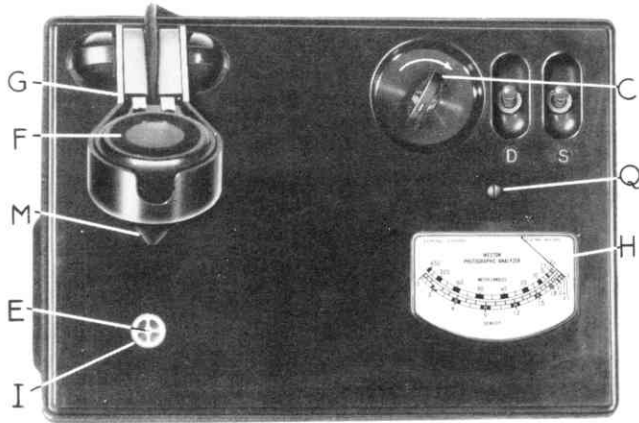

Fig. 1
How it Operates—The positions of the various external features are shown in Figure 1. The optical system inside of the Analyzer is shown in Figure 2. Light from the lamp "D" passes upward through the heat-absorbing glass "K", the double condensers "L", diffusing glass "O", and emerges as a cone-shaped beam from aperture "E" in the viewing plate "I". When the outside
arm "G" (Figure 1) is lowered to take a density reading, the diffusing glass "O" automatically slides out of place, and the light beam from aperture "E" passes through a corresponding aperture on cone "M" and impinges on the photo-electric cell "F". Obviously, this path of light must be kept in perfect alignment. If the elements are ever found to be out of adjustment, they can easily be realigned.
1. Light lamp "D" (Figure 2) by means of toggle switch "D" (Figure 1).
5. On meter "H" (Figure 1) read the density value indicated by the pointer, on the density scale.
NOTE: Before taking any readings, place cell face down on any flat surface to exclude the light, and adjust screw "Q" (Figure 1) until pointer indicates zero on Meter-Candle scale.
The integrating cone "M" (Figure 1) on the photocell arm must coincide with aperture "E" in the viewing plate "I". This can be checked by merely removing the photocell from the arm "G" and noticing by inspection if the aperture "E" is in the center of the integrating cone "M". If not, loosen the four screws which hold the cone "M" in position, and re-center.